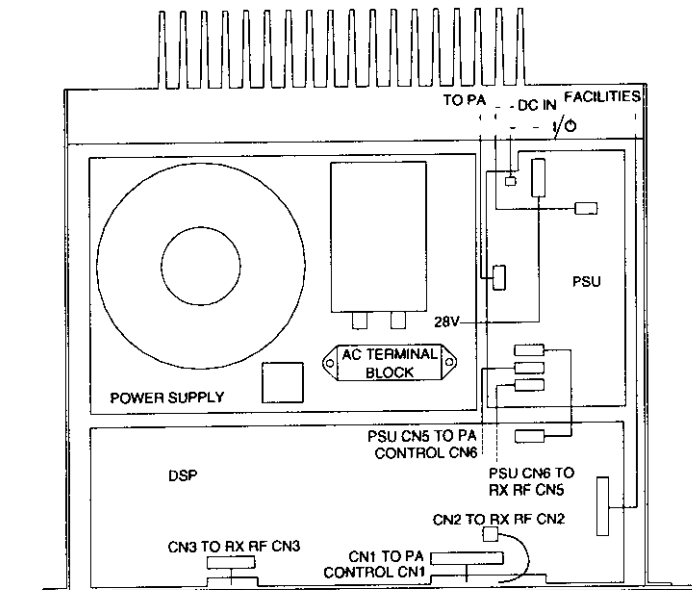

Fig 2 AC Tap Location
- Refer to Fig 2 and identify the AC Terminal Block.